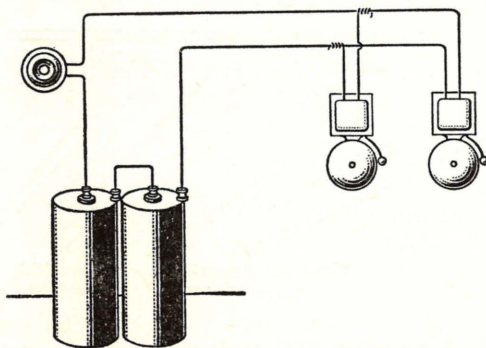

Fig. 350—Wiring diagram of a bell circuit that will operate two bells with one push button
1. Wire the circuit as shown in Fig. 350.